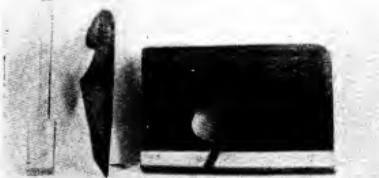
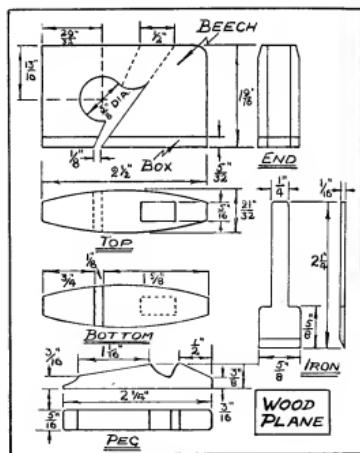
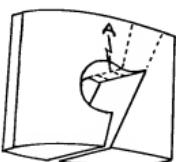

Fig. 121. Another type of small plane, made of beech faced with box-wood.
Fig. 122.
Fig. 124.
type illustrated in Fig. 120 looks the prettier little job when completed. As will be evident from the picture, this plane has had considerable use, and bears the scars of some years of workshop treatment. This proves that these tools are by no means little toys, but are real, useful implements. Of the two sorts, that in Fig. 121 is the easier
to make, and the drawing in Fig. 122 will convey principles. The sizes given are of an actual plane, but they may be scaled up or down with equally good effect. The plane selected is roughly boat-shaped in plan, and is useful for planing against a concave radius—such as might be presented by the inner wall of a circular box. On the other hand, Fig. 121 shows a plane with a rectangular plan form.
of the latter, so that it assumes the curved shape shown in the side view in Fig. 122. The drawing in Fig. 124 shows, incidentally, the work at this stage, yet the real purpose of this illustration is to indicate how the end of the upper slot is marked off within the $\frac{5}{8}$ " hole. The marking has been drawn in dotted line, and it will be seen that the position of the slot (A) has been drawn through the hole from one face to the other. The width of the slot has also been marked off. The block may now be gripped in the vice, and a $\frac{1}{4}$ " hole drilled from the top to the $\frac{5}{8}$ " hole; taking care that the slope of the drill conforms to that of the markings on the side of the block. You will, of course, not grip the work in the unmerciful jaws of the vice without interposing some cushioning substance between them. Two strips, cut from a 6d. cork bath mat (Woolworth's) make ideal vice